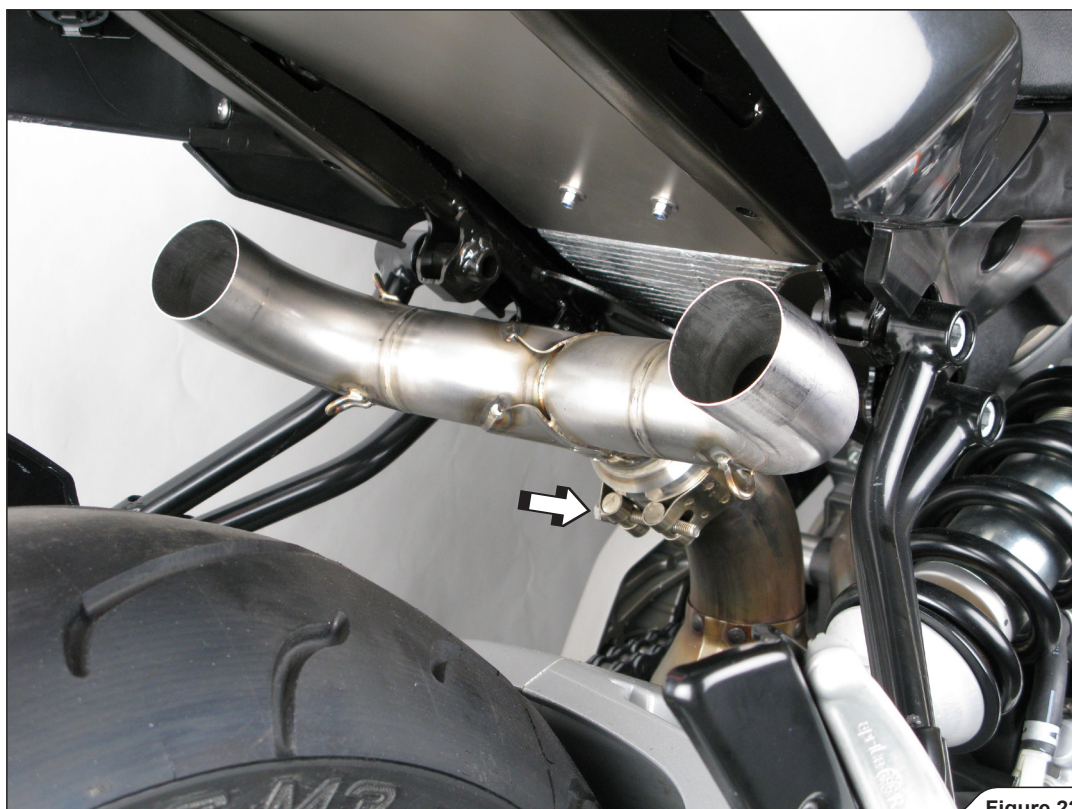

Figure 22
10. Correctly position and slide the link pipe onto the stock collector and hand tighten the stock metal clamp (Figure 22).